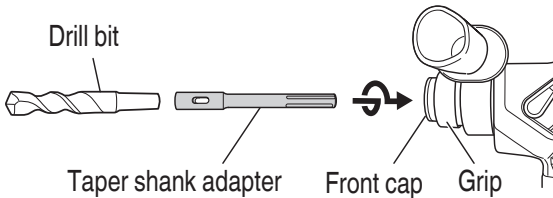
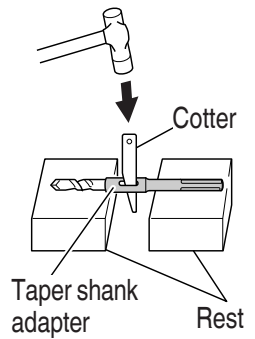

Fig. 24
Fig. 25
- (1) Mount the taper shank adapter to the rotary hammer. (**Fig. 24**)
- (2) Mount the drill bit (taper shank) to the taper shank adapter. (**Fig. 24**)
- (3) Turn the switch ON, and drill a hole in prescribed depth.
- (4) To remove the drill bit (taper shank), insert the cotter into the slot of the taper shank adapter and strike the head of the cotter with a hammer supporting on the rests. (**Fig. 25**)